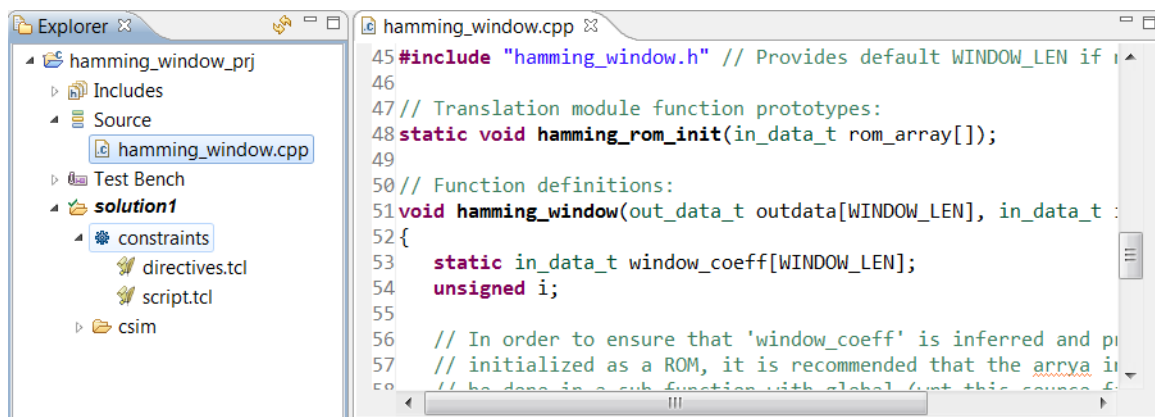

Figure 3-17: C++ Code for C Validation Lab 3
4. Open the **Source** folder in the Explorer pane and double-click `hamming_window.cpp` to open the code, as shown in Figure 3-17.